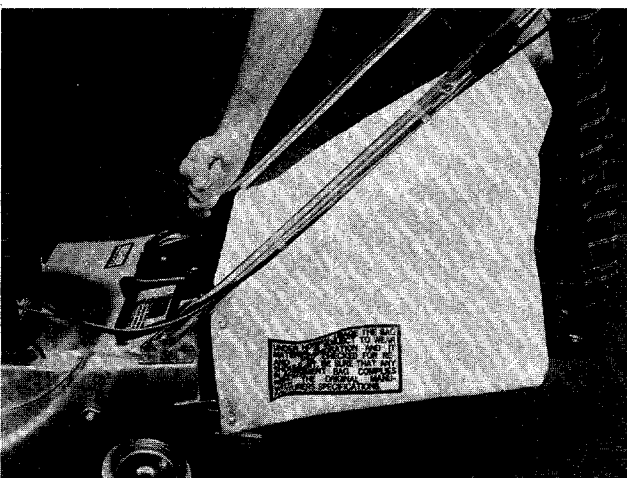

FIGURE 16.
2. Pull cam lever back and down to lock grass catcher on mower. This automatically opens rear discharge doors on mower. See figure 16. To remove the grass catcher, unlock the locking lever and lift off the grass catcher.